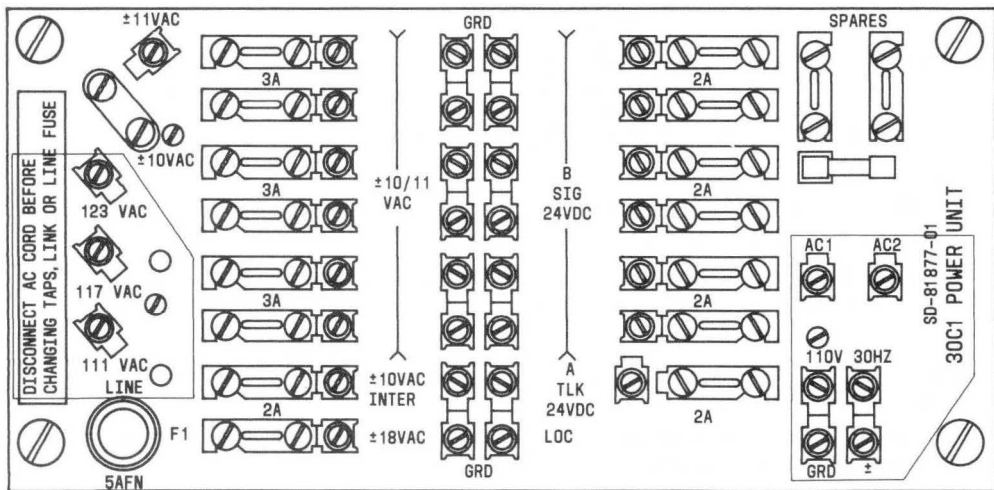

Fig. 4—Wiring Connections For 29B1, 29C1, 30B1, and 30C1 Power Units
4.01 The instructions that follow are for connecting the 30B1 (Fig. 4) and 30C1 power units to associated telephone equipment. With the exception of connections to the 113A or 117A frequency generators, rated MD, or the 117B frequency generator, the instructions also apply to the 29B1, 29C1, and 29E1 (Fig. 5) units.
4.05 Connect ground terminals, station key equipment, and lamp wiring to the appropriate supply terminals as marked on the panel. See Fig. 4 or 5.